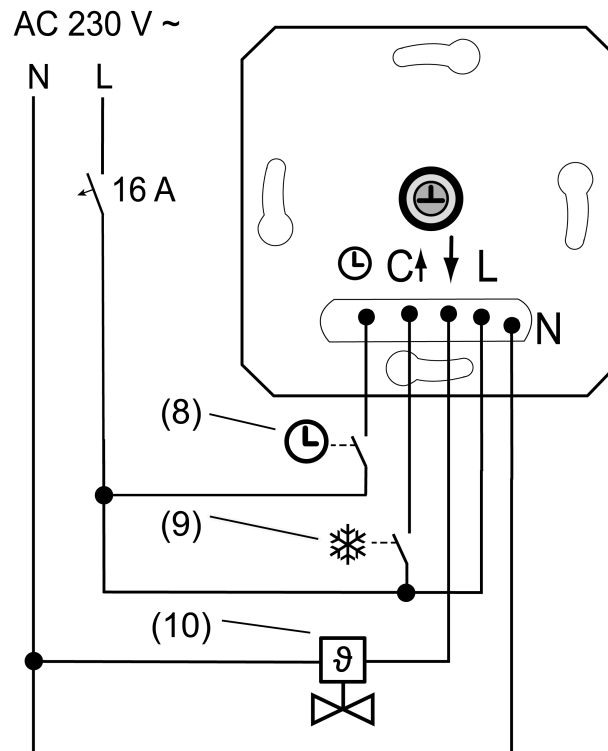
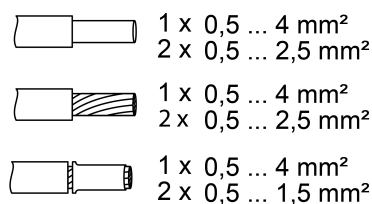

Figure 2: Connection example of the insert
Figure 3: Clampable conductor cross-section
- Connect electrothermal valve drive (10) to insert (1) according to connection diagram (Figure 2). Observe the conductor cross-sections (Figure 3).
- Optionally, connect the lowering mode input ⊖ via a switching contact of a central clock (8).